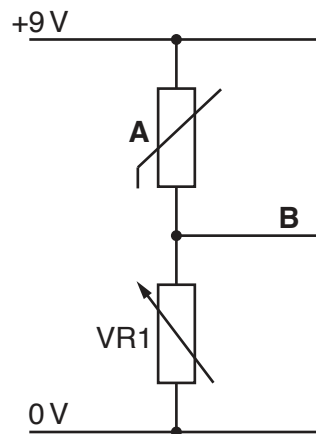

Fig. 16
(b) Fig. 16 shows part of a sensing circuit.
- (iv) Draw a voltmeter on Fig. 16 connected to read the voltage at point **B**. [2]